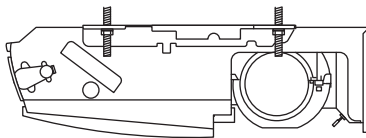

Fig. 3-26
c) Tighten the 2 hexagonal nuts on each suspension bolt to suspend the indoor unit as shown in Fig. 3-26.